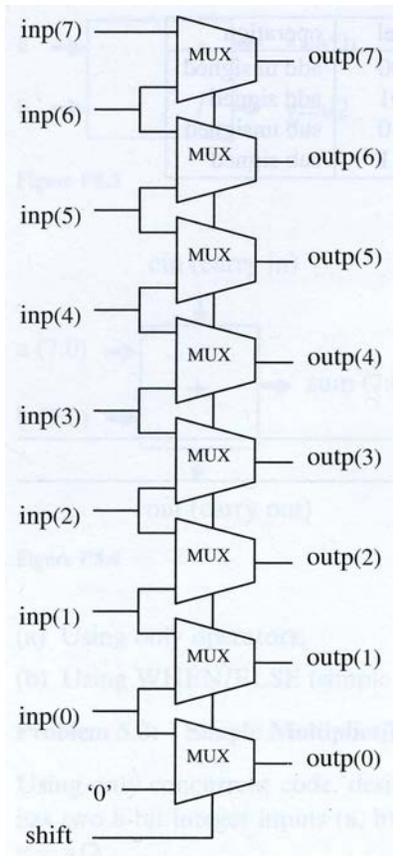

Figure 2. A block diagram of a simple Barrel Shifter (from Pedroni, *Circuit Design with VHDL*, 2nd ed.)
**Exercise 4:** Implement a simple Barrel Shifter using a **GENERATE statement**. The block diagram for a simple Barrel Shifter is shown in Figure 2. The circuit must shift the input vector (8 bits) either 0 or 1 position to the left based on a controller signal, *shift*. When shifted by 1 position (*shift* = '1'), the least significant bit must be filled with '0' (shown in Figure 2). If *shift* = 0, then *outp* = *inp* (shifted by 0 position).